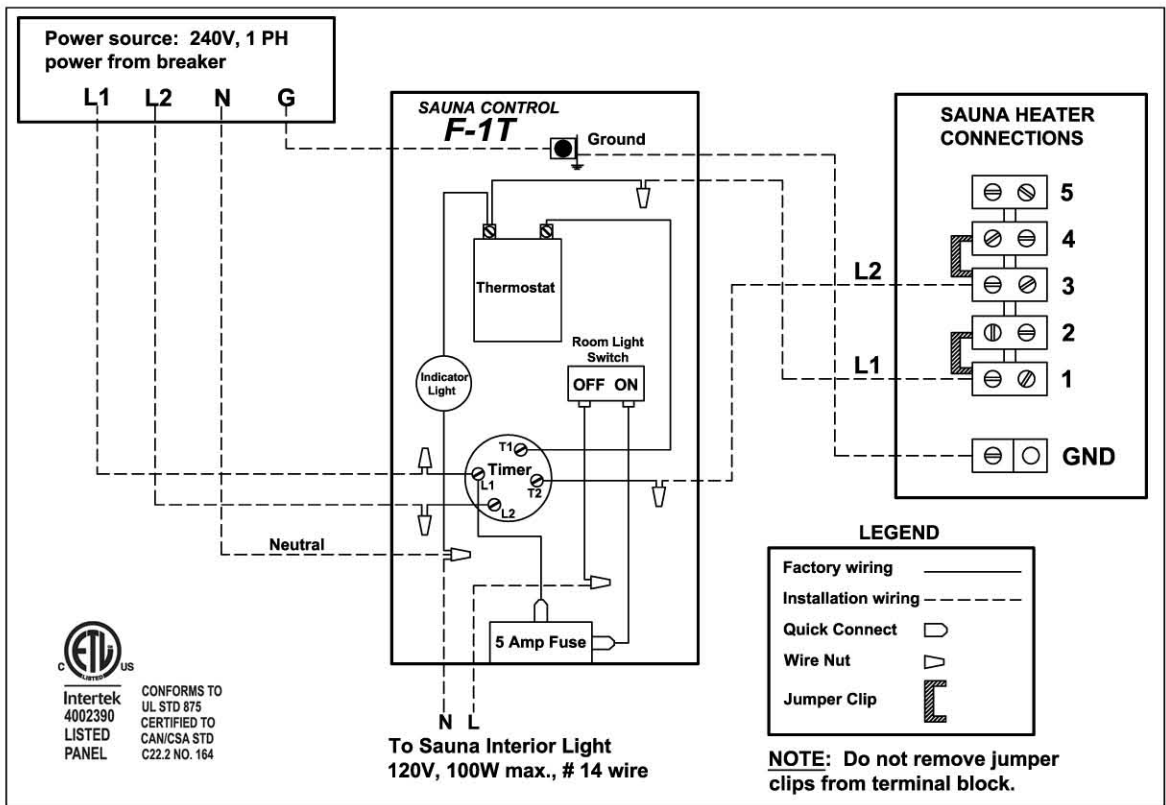

Figure 6. Use this diagram for wiring and hookup.
- See fig. 6–8 to match control to heater model. Locate control in wall, 5' up from floor, so that panel faces outward from room. Punch out one of knockouts in roughin box and push rubber grommet (provided) into knockout hole. Bring capillary tubing with sensing bulb out through